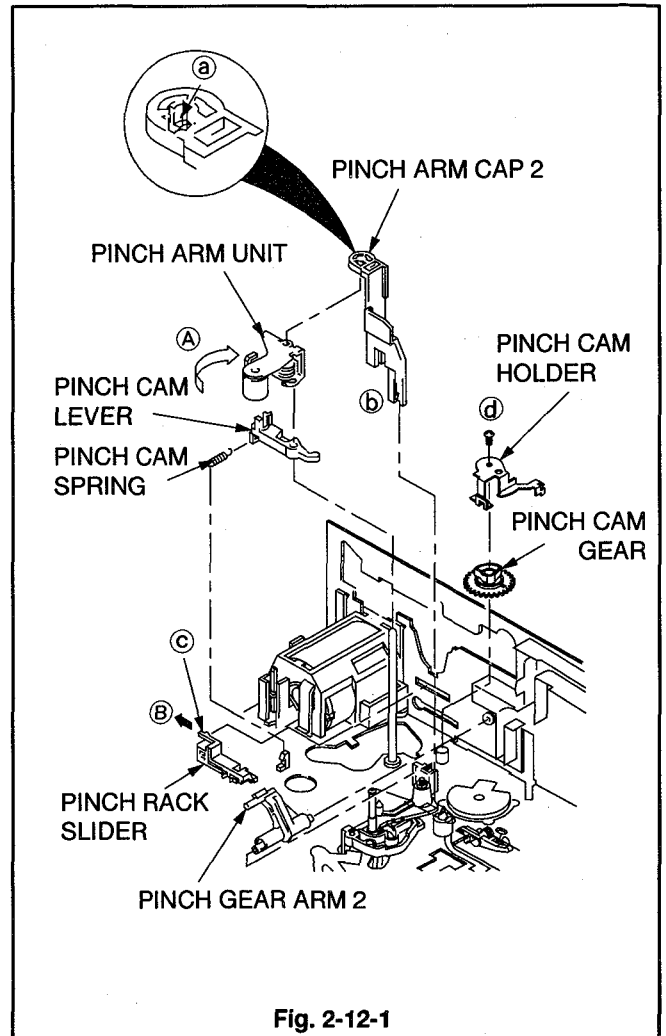

Fig. 2-12-1
- 1 Unfasten the two catches (a) and (b) of the PINCH ARM CAP 2 shown in Fig. 2-12-1 with the tweezers, etc. to remove the PINCH ARM CAP 2.
- 2 Move the PINCH ARM UNIT in the direction shown by arrow (A) to remove it as shown in Fig. 2-12-1.
- 3 Remove the PINCH GEAR ARM 2 shown in Fig. 2-12-1.
- 4 Remove the PINCH CAM SPRING shown in Fig. 2-12-1.
- 5 Remove the PINCH CAM LEVER shown in Fig. 2-12-1.
- 6 Unfasten the catch (c) of the PINCH RACK SLIDER shown in Fig. 2-12-1. Move the PINCH RACK SLIDER in the direction shown by arrow (B) to remove it.
- 7 Unscrew the screw (d) of the PINCH CAM HOLDER shown in Fig. 2-12-1 to remove the PINCH CAM HOLDER.
- 8 Remove the PINCH CAM GEAR shown in Fig. 2-12-1.
- 6 Install the PINCH CAM LEVER shown in Fig. 2-12-1.
- 7 Install the PINCH CAM SPRING shown in Fig. 2-12-1.
- 10 Move the PINCH ARM UNIT in the opposite direction of arrow (A) to install it as shown in Fig. 2-12-1.
- 11 Install the PINCH ARM CAP 2 shown in Fig. 2-12-1.